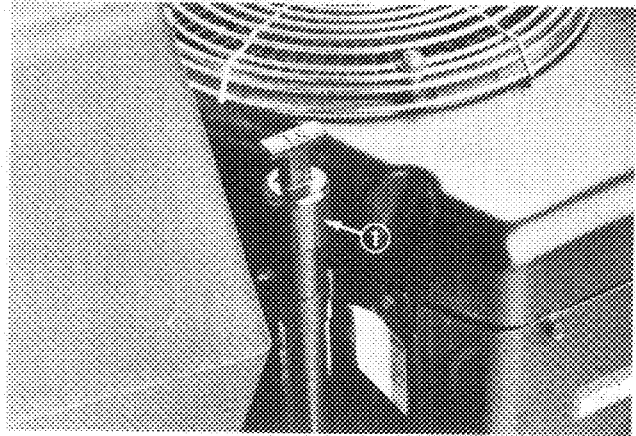

Figure 15
3. Remove dipstick (Fig. 15).
5. Wipe end of dipstick with clean rag and insert it into filler neck. Then remove the dipstick and check level of oil by reading the dipstick (Fig. 15). If level of oil is low, add only enough oil to raise level to "F" mark on dipstick. **DO NOT ADD OIL SO LEVEL RISES ABOVE "F" MARK BECAUSE ENGINE COULD BE DAMAGED WHEN IT IS STARTED.**